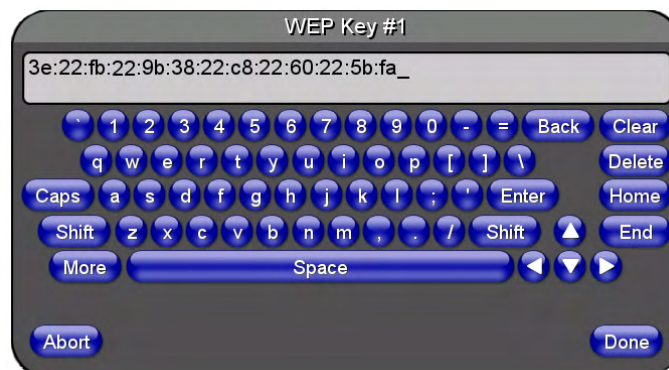

FIG. 24 WEP Key # Keyboard
- This series of hex digits (26 hex digits for a 128-bit encryption key) should be entered as the Current Key into both the WAP and onto other communicating Modero panels by using the *WEP Key* dialog (FIG. 24).